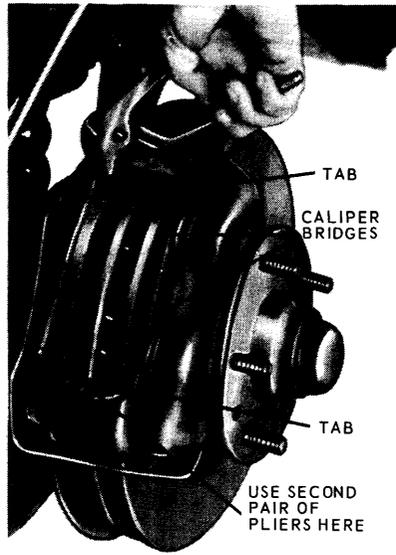

FIG. 19—Removing Disc Brake Shoe and Lining Assembly
4. Grasp the metal flange on the outer end of the shoe with two pairs of pliers and pull the shoe out of the caliper (Fig. 19).
1. Position a new shoe and lining assembly on each side of the rotor so that the lining faces the rotor. Be sure that the tabs on the shoe flanges seat fully against the caliper bridges (Fig. 19).